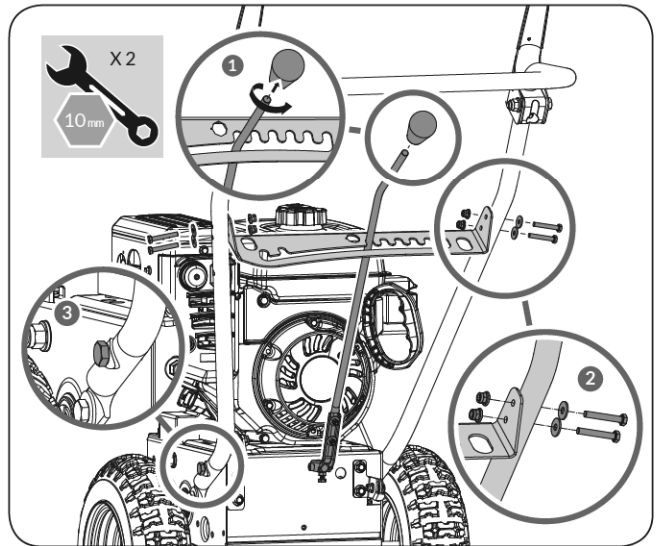

**Figure 2**
3. Align the holes in the handle with the upper holes on both sides of the transmission housing. Insert the bolts and curved washers and finger tighten to hold in place. (See **Figure 2**)